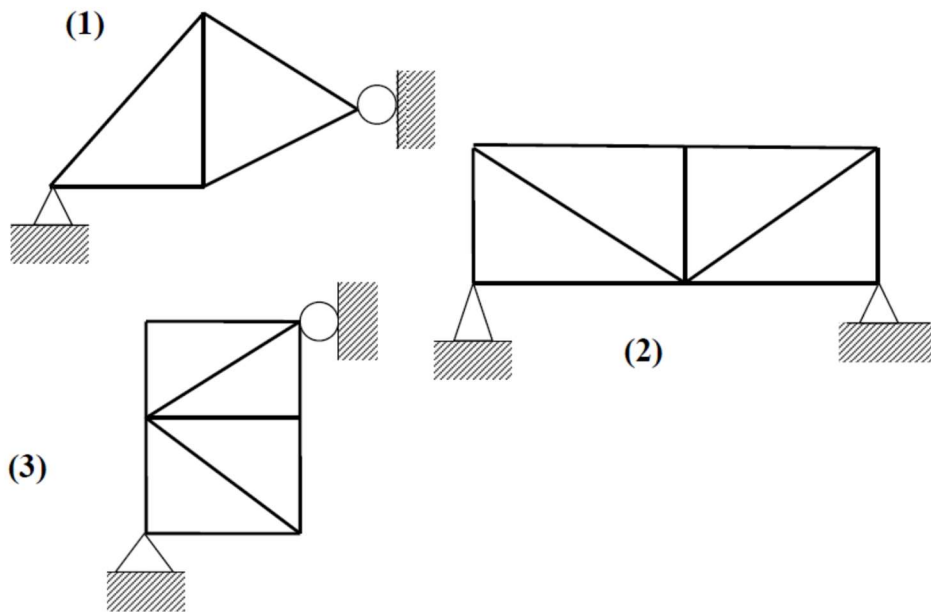

Fig.Q2
2. Three plane trusses are shown in Fig.Q2. The statical determinacy of the trusses, (1), (2) and (3) are respectively: